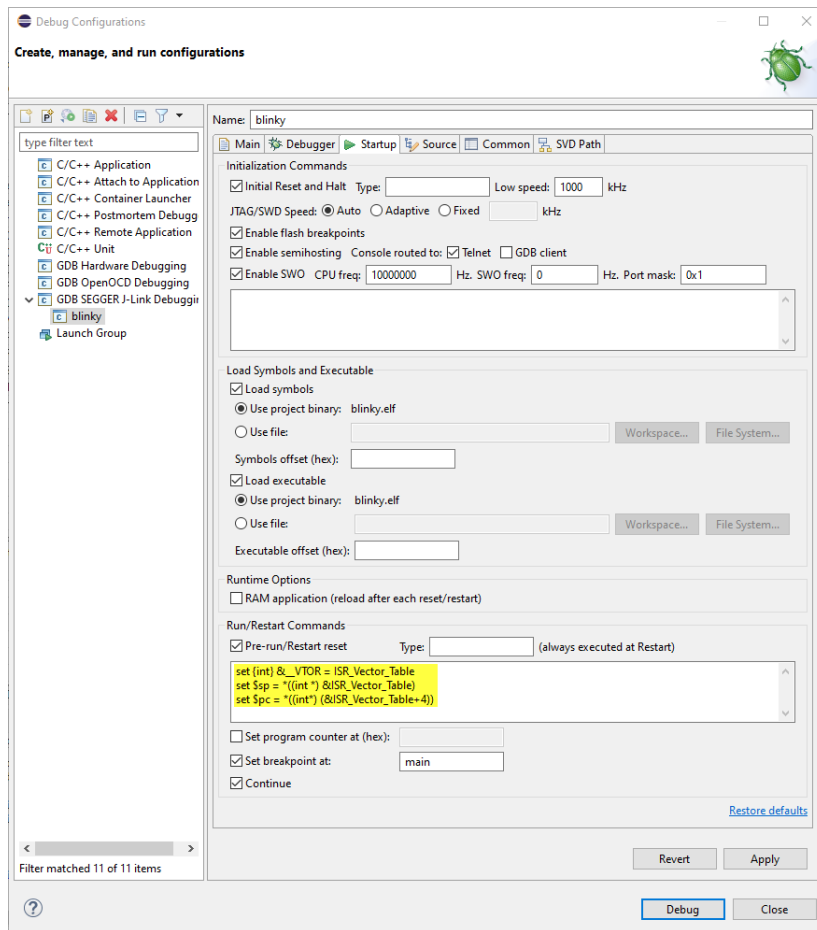

Figure 44. Setting Up a GDB Launch Configuration, Startup Tab
2. Enter the following in the **Run/Restart Commands** field as illustrated in Figure 44: